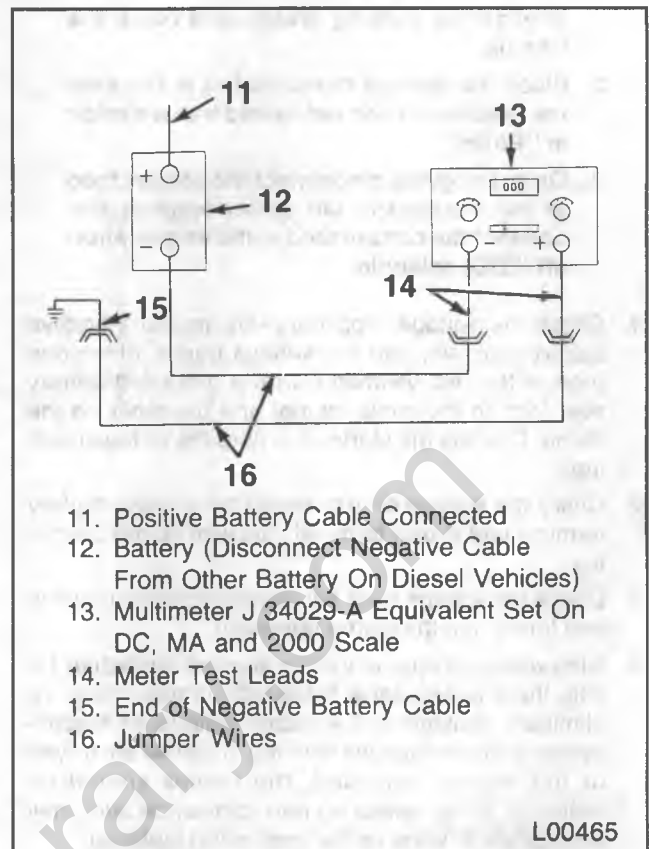

Figure 12 — Battery Drain Test Circuit
3. Clip of a jumper wire to the negative battery terminal adapter (figure 12).